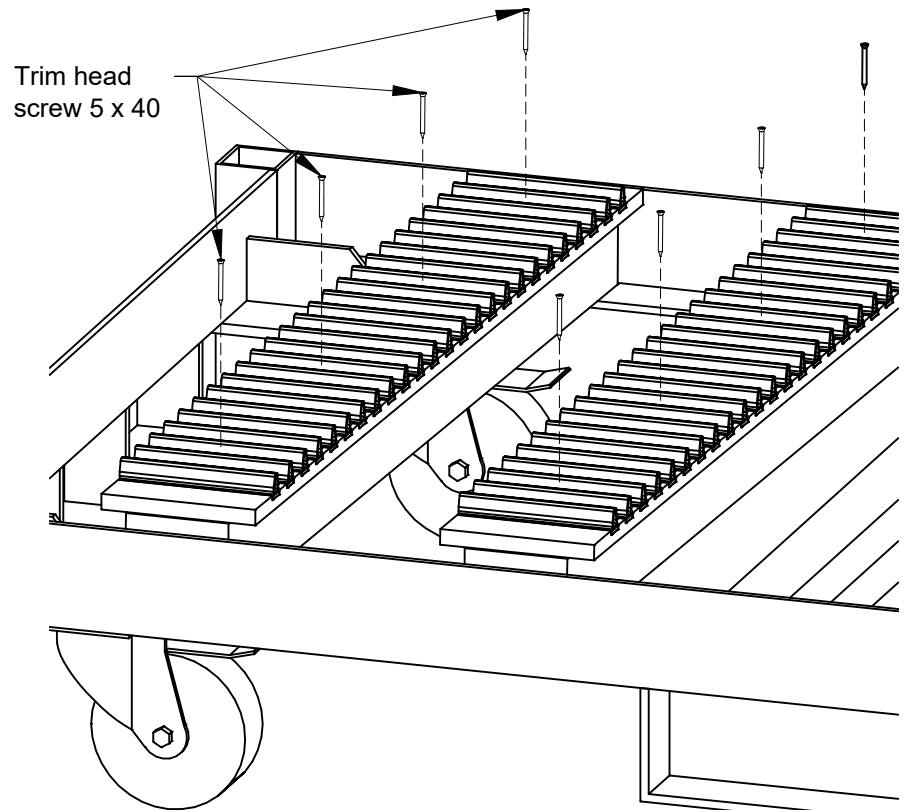
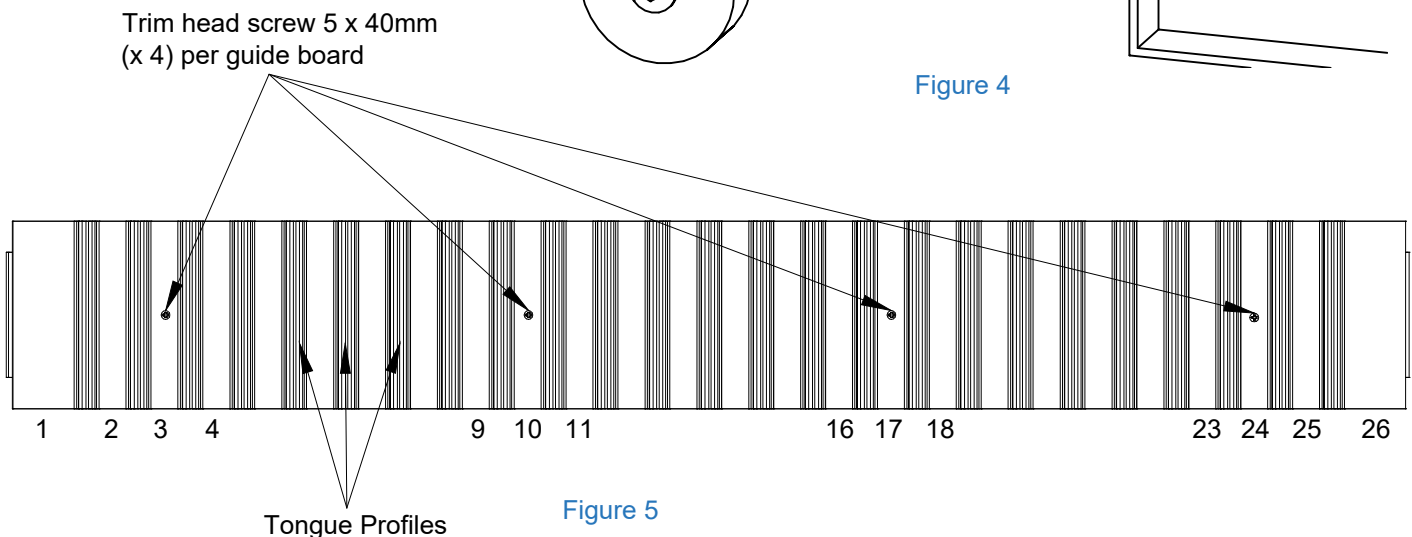

Figure 4
Figure 5
- 2.3 Place the guide-board over the plank as shown in Figure 4 and fasten it using trim head wood screws 5x40mm. Screw it in the following arrangement as shown in Figure 5.